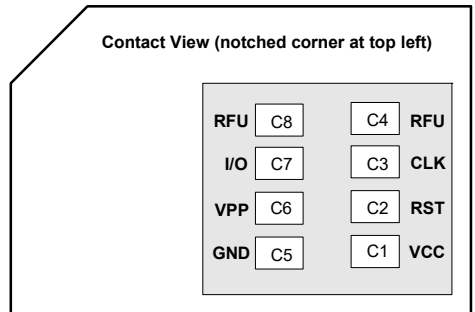

Figure 3-6: SIM Card Contacts (Contact View)
a. See Figure 3-6 on page 30 for SIM card contacts.